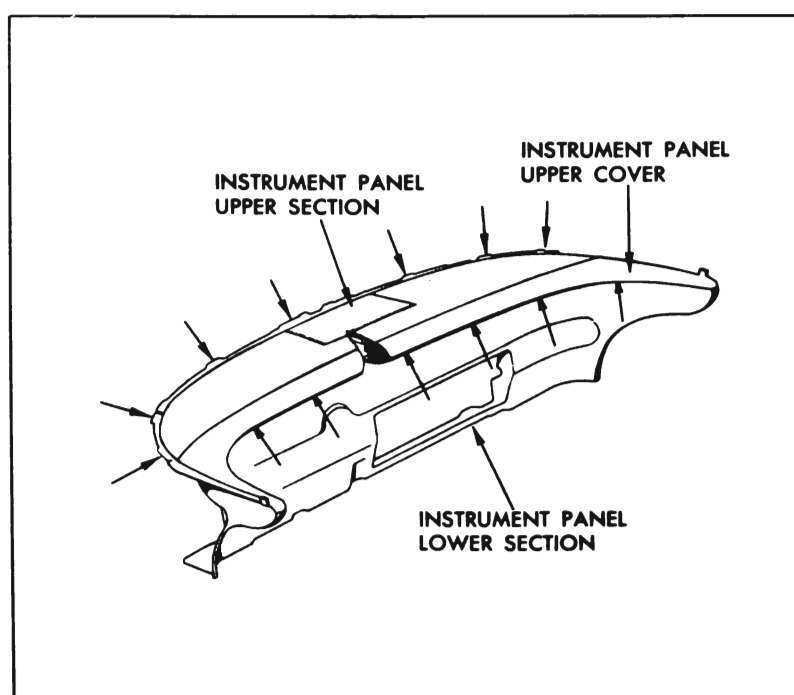

Figure 13-184—Instrument Panel Upper Section (50-70-700 Series)
4. To install, reverse removal procedure. See figure 13-184.
of the instrument panel to gain access to the cover attaching nuts. See figure 13-184.